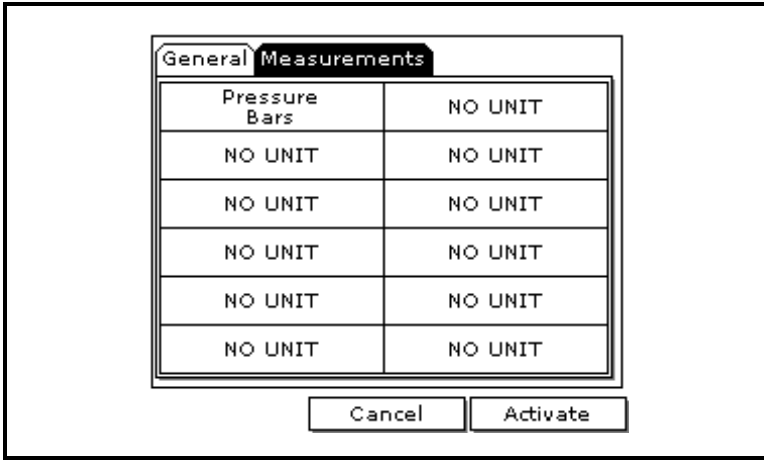

Figure 6-3: The Log Measurements Window
- Use the arrow keys to move back to the **General** tab and then move to the **Measurements** tab and press [ENTER]. A screen similar to Figure 6-3 below appears.